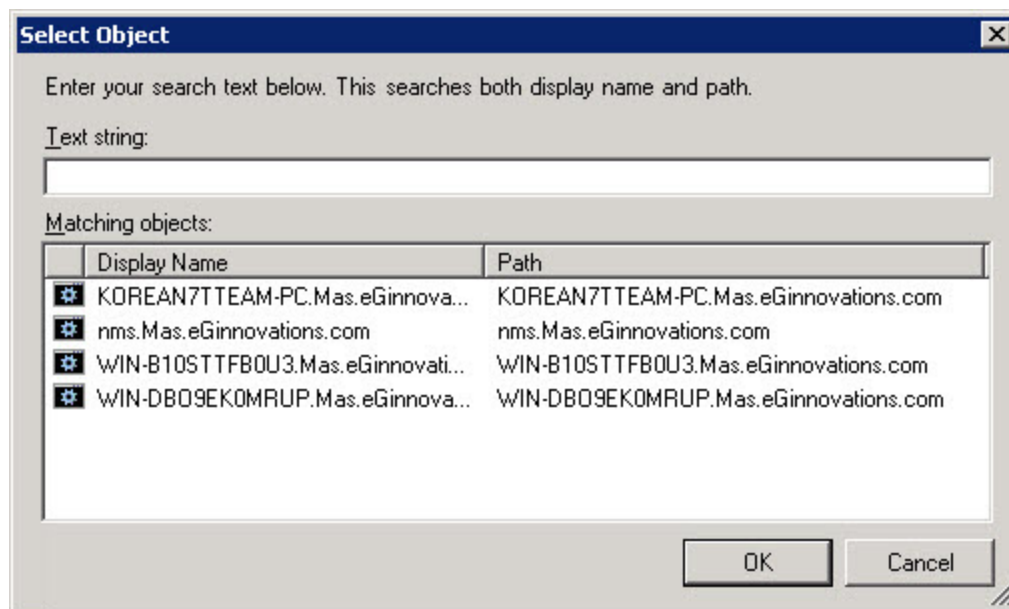

Figure 3.19: Choosing the server on which the eG SCOM Connector is running
- Figure 3.19 then appears. Like before, from Figure 3.19, select the server on which the eG SCOM Connector service is running, and click the **OK** button therein.